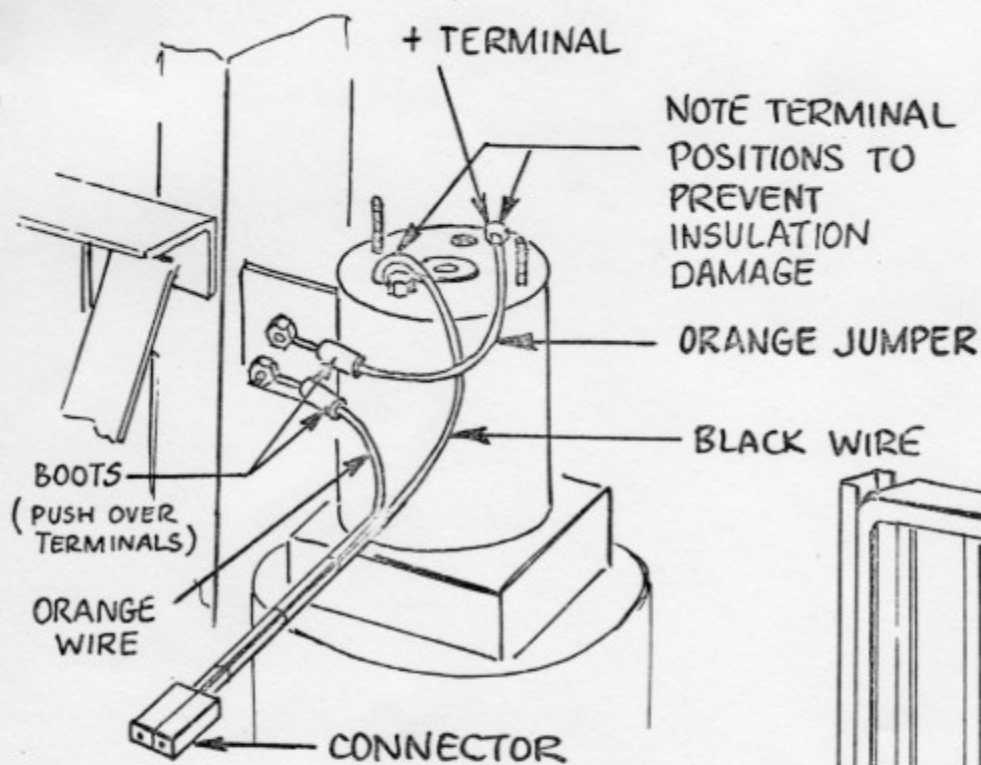

Figure 1
4. Remove the fork lift motor cover and connect the orange jumper wire from the motor terminal marked "+" to the upper switch terminal. Slide the boot over the switch terminal. Connect the black harness wire to the other motor terminal. Hold the wire in the position shown while tightening the connection. Connect the orange harness wire to the lower switch terminal and slide the boot over the terminal. Turn the wire terminals towards the center of the motor to prevent insulation damage when the cover is replaced. Replace the cover so that the wires exit the cover cutout towards the rear of the lift. See Figure 1.